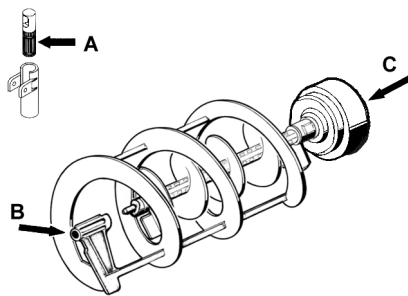

figure 10
- 2 Lubricate faucet piston, inside auger and outer spiral (see points A, B and C of figure 10) only with the grease supplied by the manufacturer or other **food grade approved** lubricant.